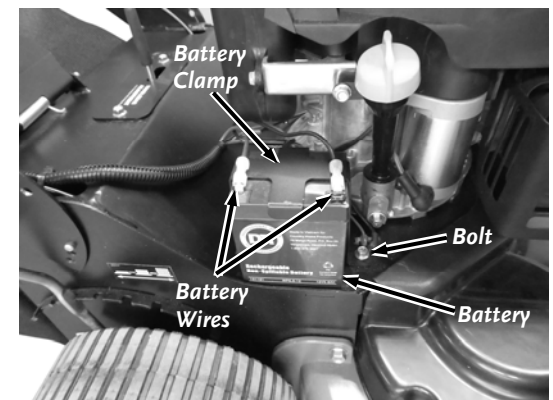

Figure 39
1. Remove the Battery Wires from the Terminals (**Figure 39**).